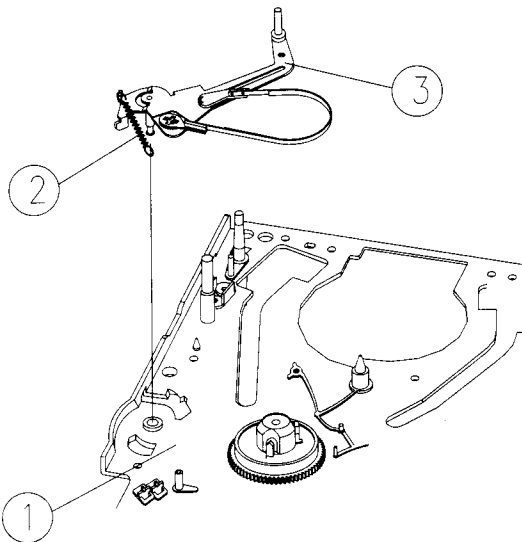

Fig.3-15 TENSION BAND ASS'Y REMOVAL ( I )
### 3-10. TENSION BAND ASS'Y REMOVAL (See Fig.3-15, 3-16)
- a. Remove the TENSION SPRING ② from the MAINBASE ①. (Fig.3-15)